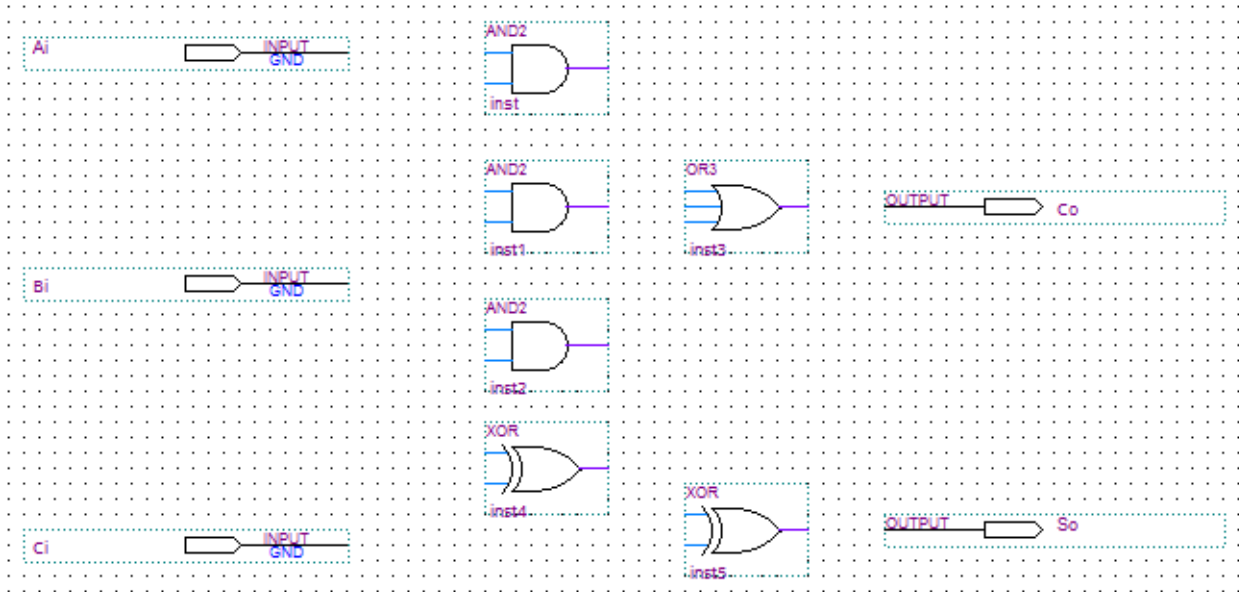
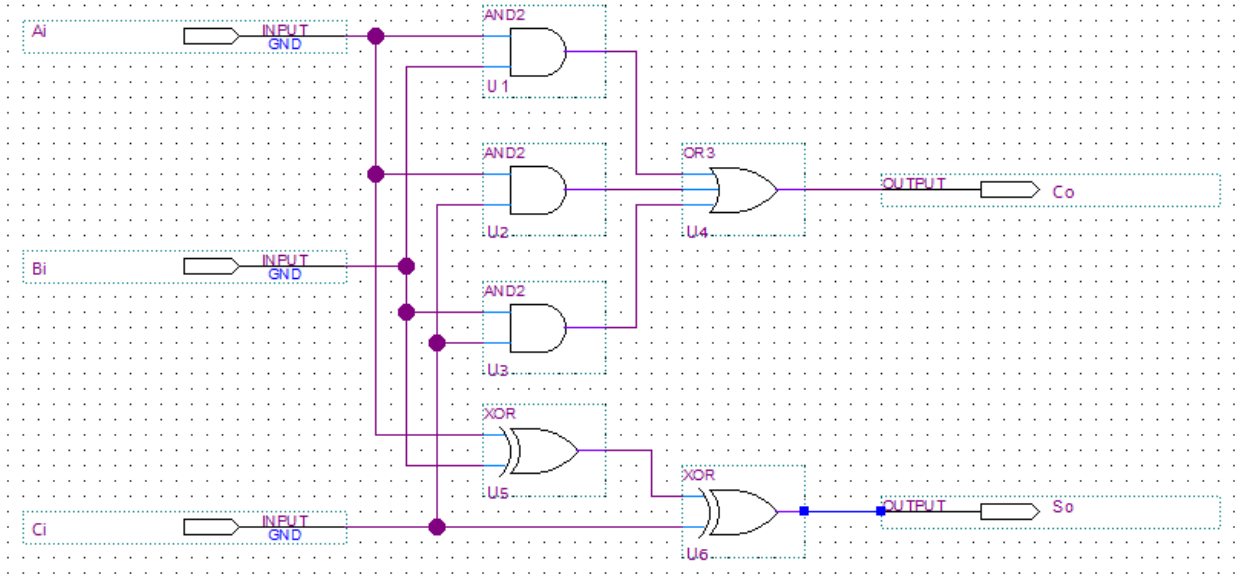

Figure 5: Components inserted into schematic
Figure 7: Schematic with components and wires
The next step is to insert component symbols to look like what's shown in Figure 5. The inputs to the left are Ai, Bi, and Ci. The outputs to the right are Co and So. There are three AND gates, an OR gate, and two XOR gates.
- To arrange the components to look more like those in Figure 5, first press the escape key to make sure the editor is in the select mode. To move a component first place the cursor on a component, press the mouse button, and drag the mouse to move the given component. Next, release the mouse button to leave the component at the new position.
At this point you have a schematic editor open with components arranged in a manner similar to that shown in Figure 5. After wires are inserted the schematic will look similar to that shown in Figure 7. Each narrow line is a wire that connects between pins. Note that the wire connecting to the output So is highlighted as it was just inserted into the schematic. Your final schematic should not have any wires highlighted in this way. The dots are junctions which indicate that the corresponding horizontal and vertical wires are connected.
- Insert the remaining wires so your schematic looks similar to that shown in Figure 7.